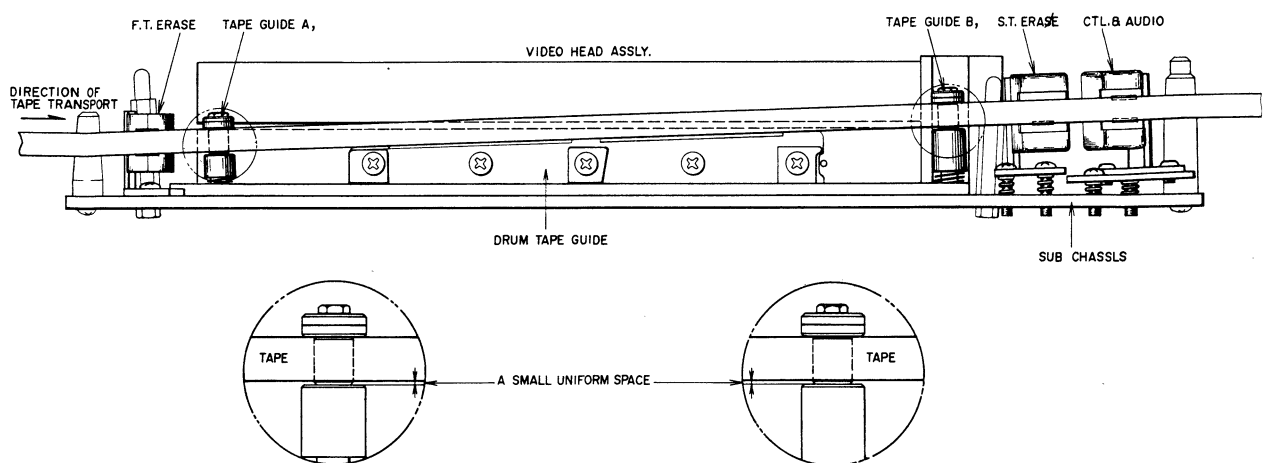

Fig. 1-21
- In case RF Envelope amplitude fluctuation exists even after the above adjustments have been made, because tape travel is causing vertical movement of the tape guide band on the outer circumference of the head drum, adjust the angle of sub pinch roller or the forward and backward slant of the side track erase head and/or CTL head so that the tape contacts the upper part of tape guides "A" and "B" as shown in Fig. 1-21 and runs smoothly on the tape guide band. When making this adjustment, at the same time adjust tape guides "A" and "B" to obtain a square RF Envelope. RF Envelope fluctuation must be within 1% of peak to peak value.